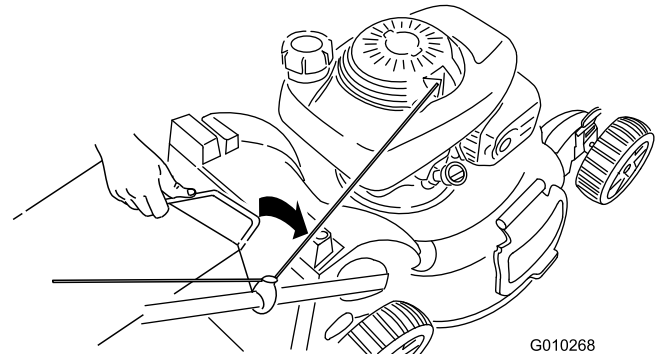

Figure 28
3. Insert the grass-bag handle into the grooves at the top of the machine (Figure 28).